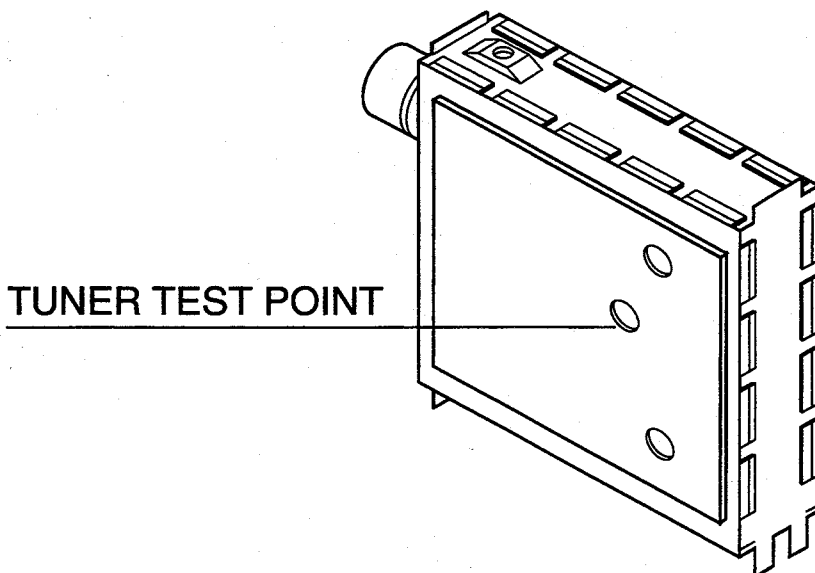

Fig. 1a
3. Connects VIF sweep signal to the tuner test point & ground (See figure 1a).